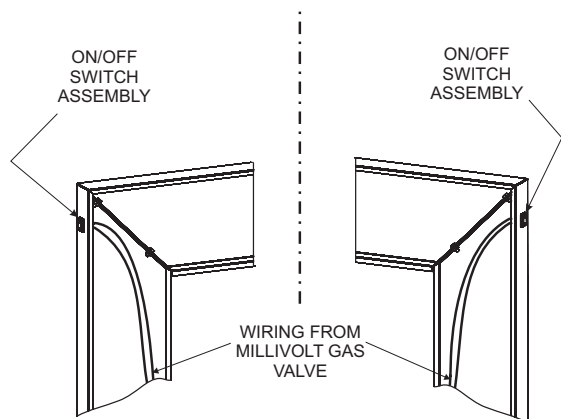

Figure 17
3. Run the low voltage alternate switch wires up the back of the right or left surround panel. Then secure the wires with wire clips provided. **See Figure 17.**